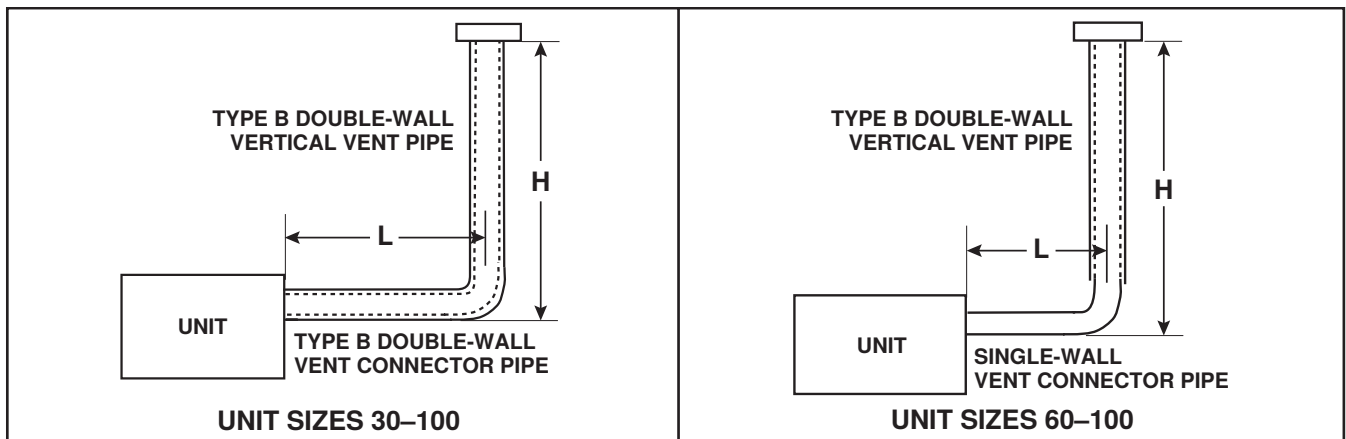

Figure 13. Typical Category I Dedicated Vent (Refer to Table 15)
1. Select vent pipe and vent connector for Category I vent (see Figure 13).
*See **Figure 13**. H = vertical vent pipe length. L = maximum permitted horizontal vent connector length.
*See Figure 13. H = vertical vent pipe length. L = maximum permitted horizontal vent connector length.